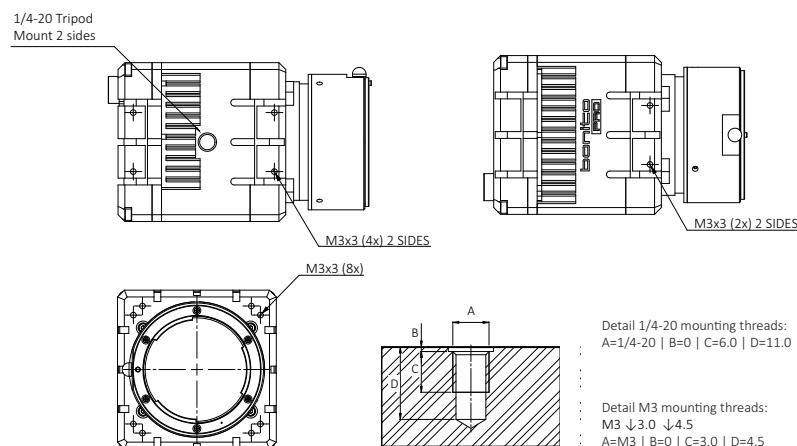

Figure 23: Mounting holes in top, bottom, and sides of camera
- **1/4-20 mounting threads:** As shown in Figure 23, mount the camera to the base using suitable 1/4-20 screws at 5 Nm maximum torque for a thread engagement (C) of 6.0 mm between screws and mounting threads.
- **M3 mounting threads:** As shown in Figure 23, mount the camera to the base using suitable M3 screws at 0.69 Nm maximum torque for a thread engagement (C) of 3.0 mm between screws and mounting threads.